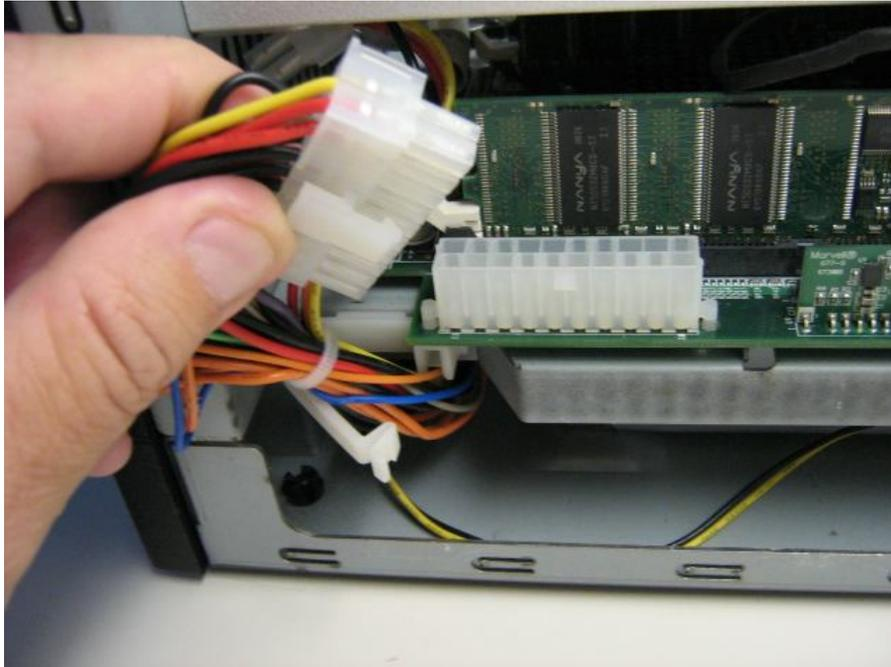

Figure A-27 Remove the Power Supply Harness Connector
7. Remove the power supply harness connector as shown in Figure A-27.